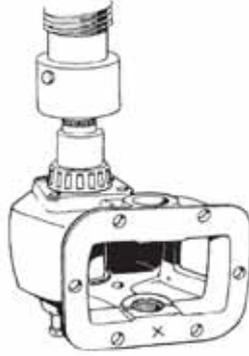

Figure 7 Installing Drive Shaft Bearing
- k. Press the bearing onto the shaft (Figure 7) until it butts firmly against the shoulder.